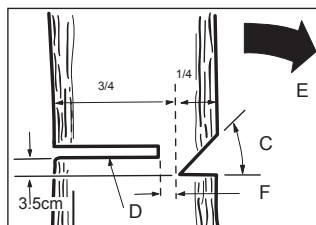

FIG. 1
As a rule, felling consists of two main cuts, the notch (C fig.1) and the actual cut (D fig.1), which is necessary for the tree to fall.
- Start with the upper notch (C) on the side of the tree facing the direction of fall (E)
- The notch must have a depth (F) equal to approximately $\frac{1}{4}$ of the trunk diameter.
- After making the notch, make the actual cut (D) on the other side of the tree, 3-5 cm above the notch (fig. 1).